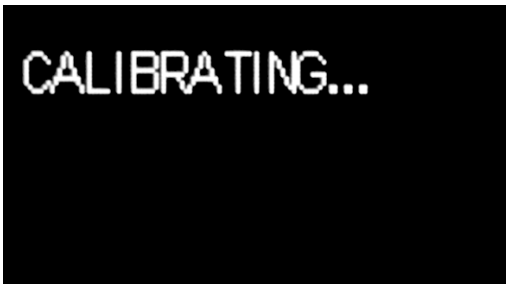

Figure 2-13: Calibration in Progress
- Once any button is pressed, Figure 2-13 shows on the display indicating open calibration is in progress.